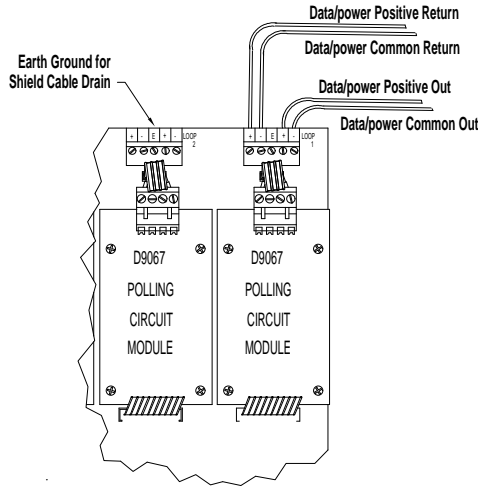

Figure 5: "E" Terminal Location
- Connect the drain wire for shielded cable to the E terminal of the Data Terminal Block at the FACP. See Figure 5 for details.